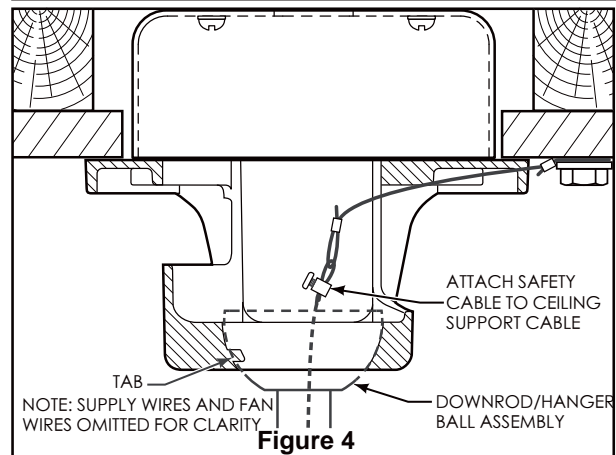

Figure 4
- 4. Slide downrod into the downrod support on top of the motor. Install the clevis pin by aligning the holes in the downrod support with holes in the downrod. Secure clevis pin with hairpin clip. Tighten the two set screws with nuts in the downrod support. (Figure 4)
4. Carefully lift the fan and seat the downrod/hanger ball assembly on the hanger bracket that was just attached to the ceiling joist. Be sure the groove in the ball is lined up with tab on the hanger bracket. (Figure 4)
5. Attach the safety cable to ceiling support cable. Slide cable clamp onto safety cable (from fan). Place the end of cable through the loop of ceiling support cable. Pull as much cable through loop as possible. Feed end of cable into clamp hole and firmly tighten screw (Figure 4). Cut off excess safety cable.
3. After connections have been made, turn leads upward and carefully push leads into the outlet box, with the white and green leads to one side of the box and the black leads to the other side. (Figure 4)
4. Connect the 2 pin connectors from the light kit to the 2 pin connectors from motor assembly. (Figure 4)
- 4.** To set the remote code with a small screwdriver or ball point pen (neither included), slide dip switches firmly up or down. (Figure 4)